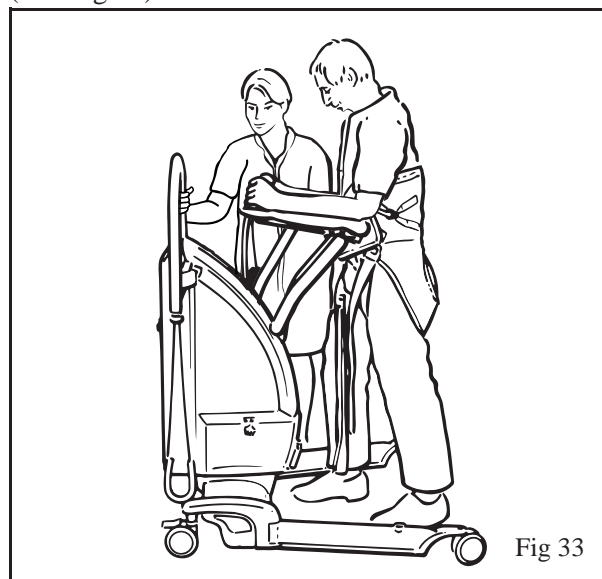

Fig 33
10. With the Proactive Pad removed and the brakes released, the patient is able to walk at their own pace, while being supported by the Sara Plus. (See Fig 33)